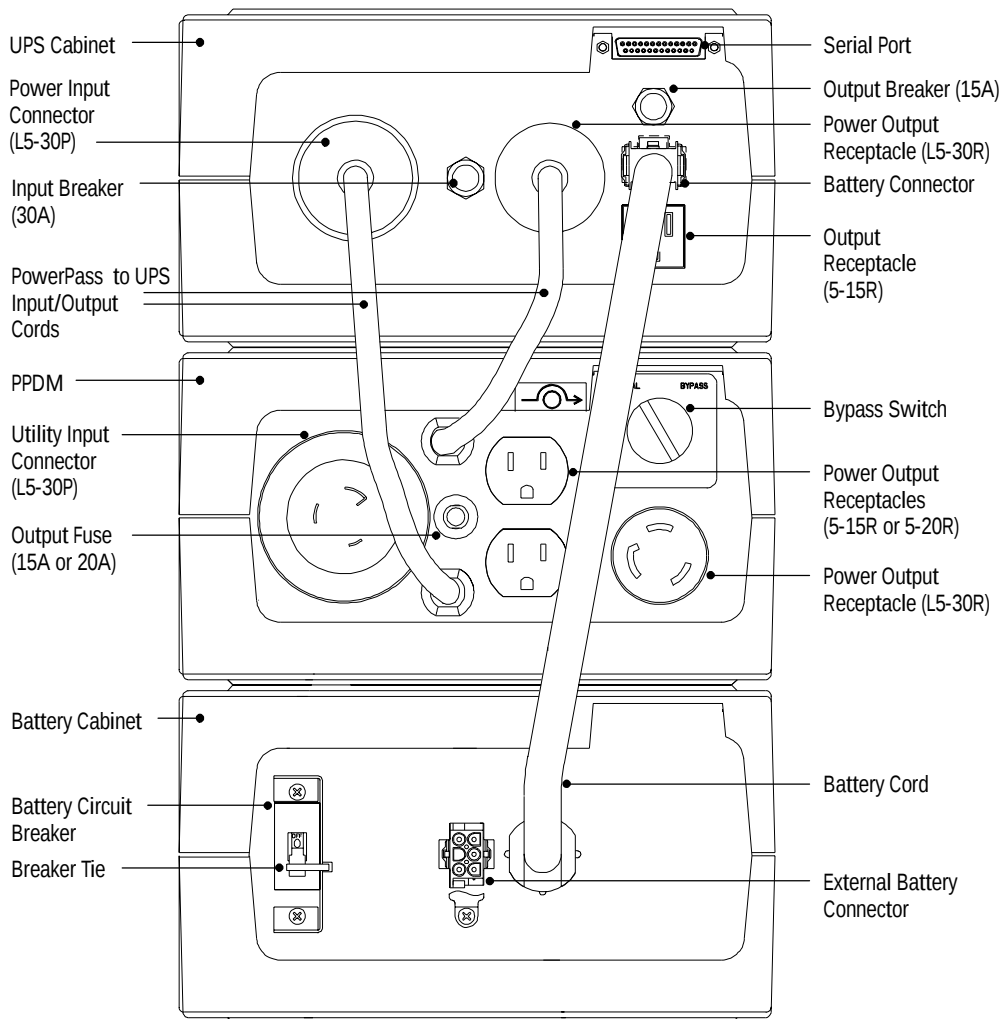

Figure 6. UPS with Plug/Receptacle PPDM Rear Panel
3. Verify the circuit breaker on all battery cabinets is in the OFF (O) position (see Figure 6).
5. Plug the input and output cords of the PPDM into the input and output power connectors on the UPS rear panel as shown in Figure 6.
2. Turn the Bypass switch on the PPDM rear panel to the NORMAL position (see Figure 6 on page 34).